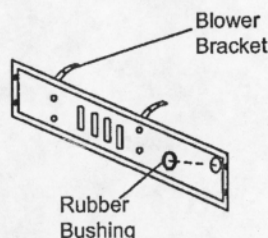

Figure 10-F Installing Bushing
2. Attach the rubber bushing provided in blower on the hole upright position of the Knock-out (see Figure 10-F).